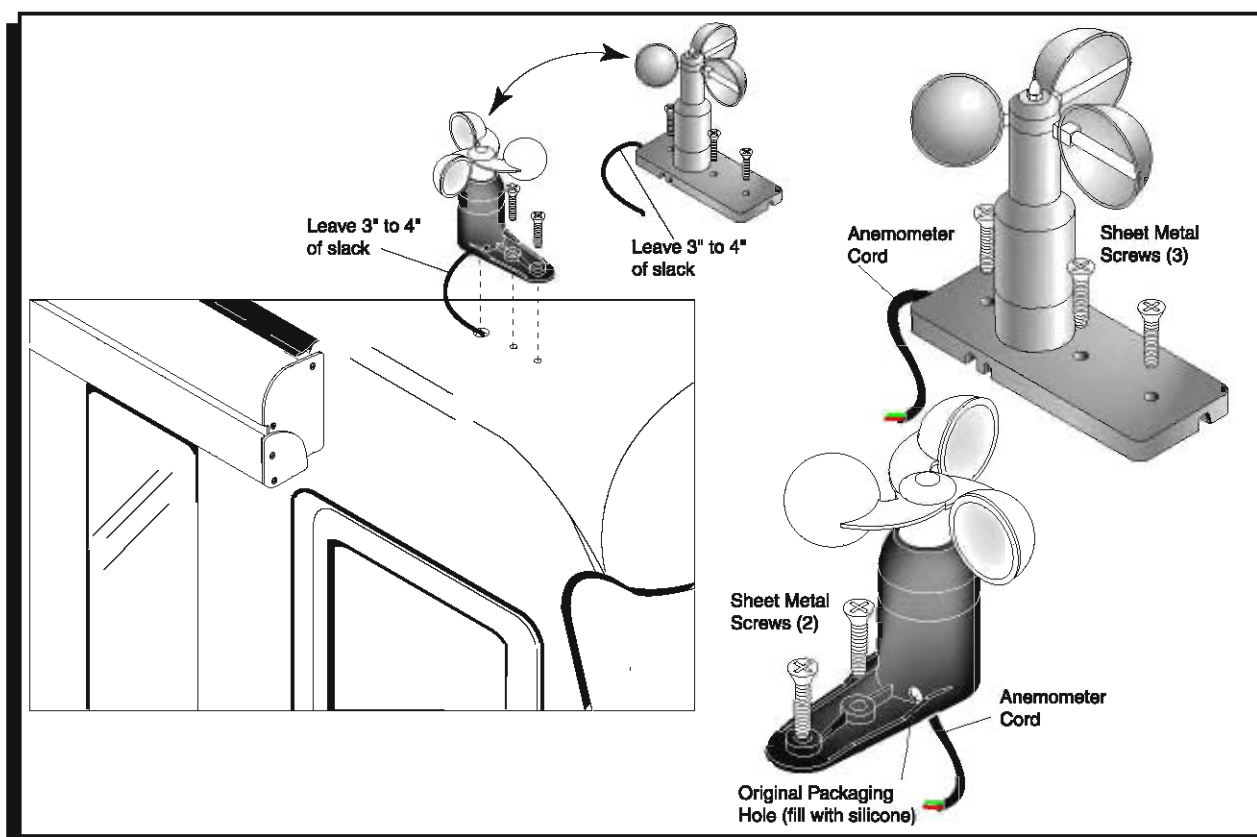

FIGURE 26
1. Place anemometer on roof of vehicle in position shown (Fig. 26), ensuring that base is pointing toward front of RV. Location should be
4. Pull anemometer cord back through original packaging hole until cord dangles straight down from exit point of anemometer body (see Fig. 26).